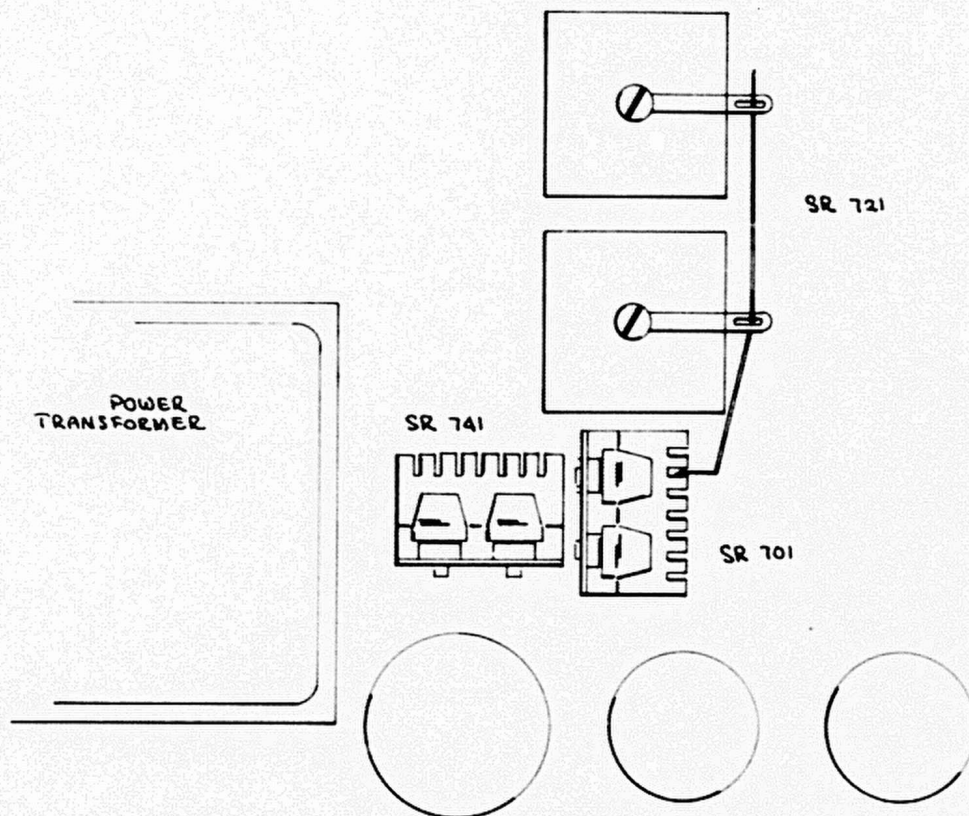

Fig. 2
- Connect bare wire to SR701 as shown in Fig. 2.
3. Orient assembly as shown in Fig. 2. If replacing SR701, do not connect the bare wire to SR721 until step 3.
3. Mount silicon rectifier assembly in instrument using a #6-32 x 3/8 screw and flat washer from the kit. Orient as indicated in Fig. 2 or 3.